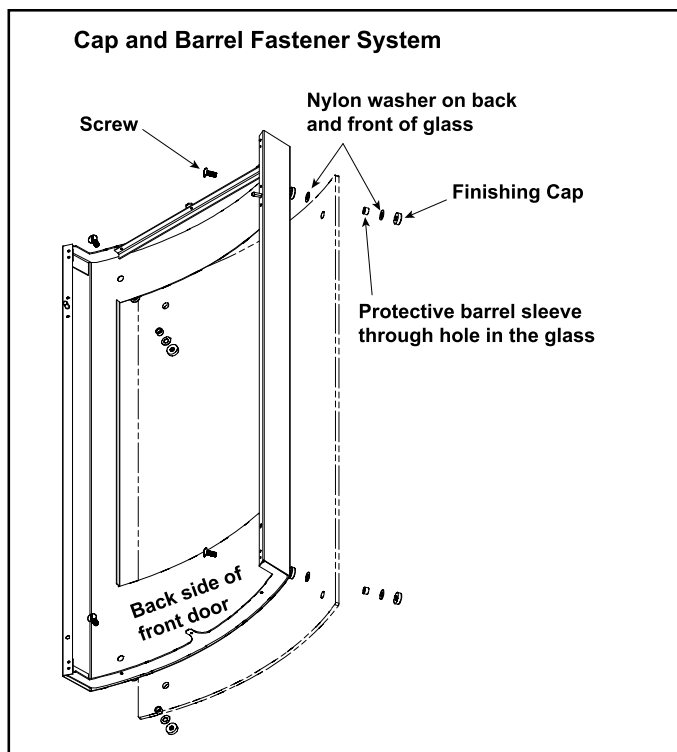

Figure 9.17
**Refer to Figure 9.17:** Position the four flat 6 mm spacer washers on the front door so that the four mounting screws pass through them. Position the glass over the front door.